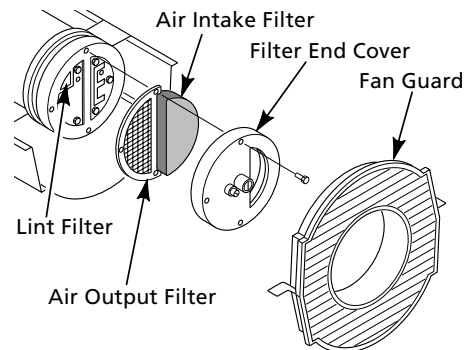

Figure 10 - Air Output, Air Intake, and Lint Filters, Models 2E510F and 2E511F
2. Remove filter end cover screws using 5/16" nut-driver (See Figures 10 and 11).